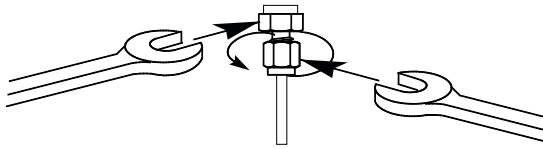

Figure 23 Final tightening
- 8** For 1/8-inch Swagelok fittings, use a pair of 7/16-inch wrenches to tighten the fitting 3/4 of a turn (Figure 23). For 1/4-inch fittings, use a pair of 9/16-inch wrenches to tighten them 1-1/4 turn (Figure 23).